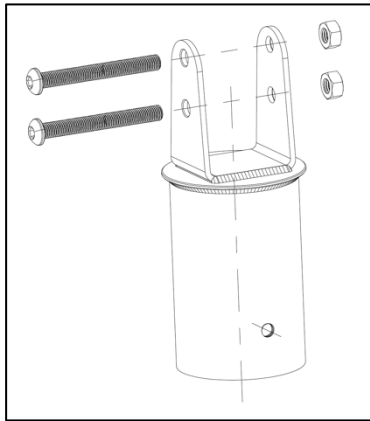
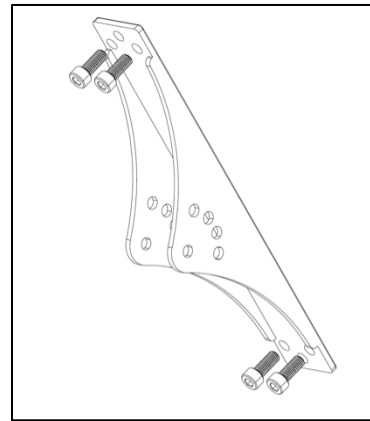
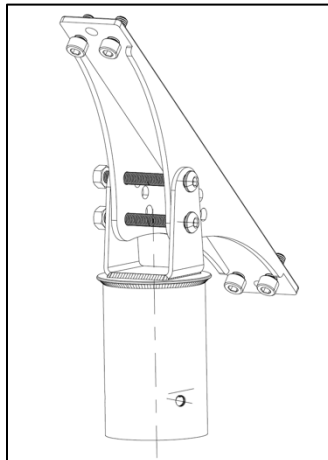
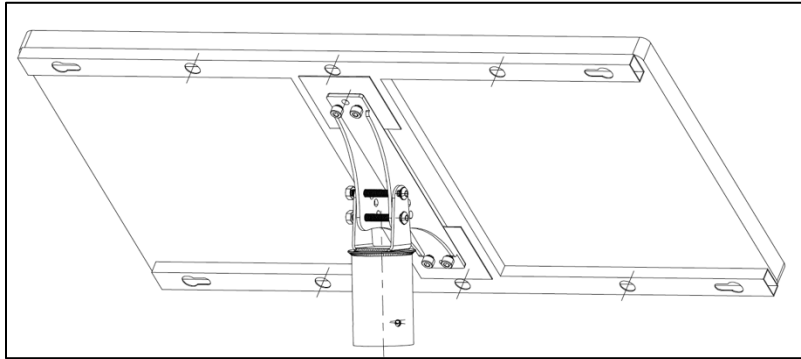

Figure 1
Figure 2
Figure 3
Figure 4
Determine angle of solar panel (figure 4) prior to putting together panel bracket (figure 2) to pole top mount (figure 1). Panel can be adjusted +/- 45 degrees for optimal sunlight exposure.
1. Install pole top mount (figure 1) to panel bracket (figure 2) and secure with two long screws provided.
2. Secure panel bracket (figure 3) to back of solar panel (figure 4) with 4 short screws provided.
3. The assembled unit should be as shown below (figure 4).